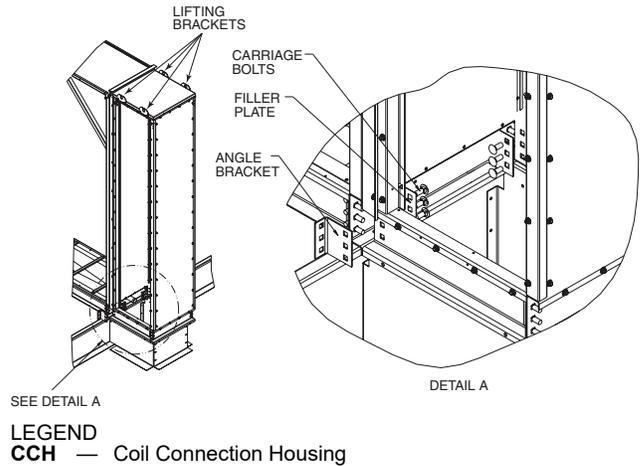

Fig. 67 — Positioning CCH
- a. Using the lifting brackets (shown in Fig. 67), lift the CCH into the vertical position and remove the shipping brackets (shown in Fig. 61).
- b. Using the lifting brackets (shown in Fig. 67) place the CCH on top of the CCH curb. Once in position there should be about a 2-in. gap between the unit wall and the CCH frame covered by the flashing.
11. Attach the angle bracket using the lifting lug nuts and washers; do not fully tighten. **DO NOT USE THIS PART FOR LIFTING THE UNIT.** See Fig. 67, Detail A.
12. Place the filler plate inside the CCH baserail, align the square holes with the pattern on the base rail and the angle bracket, then insert the 3 carriage bolts provided through the plate, base rail and angle bracket. Fully tighten with provided washers and nuts. See Fig. 67, Detail A.
13. Finish tightening the angle bracket to the unit base rail. See Fig. 67, Detail A.